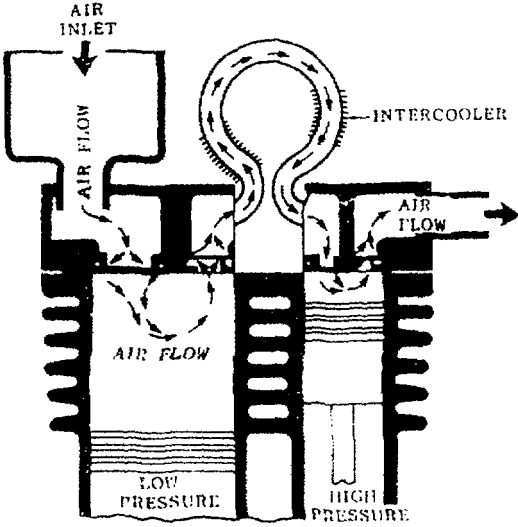

Figure 1-3. Air Compressor, Operation.
- a. *Compressor.* (Refer to figure 1-3).
- (1) Filtered air is drawn into the first stage (low-pressure) cylinders at atmospheric pressure as the pistons move down.
- (2) The air is compressed when the pistons are moved upwards. When the air pressure inside the cylinders reaches a pre-determined value, the valve spring pressure is overcome and the air is forced out the discharge valve to the intercooler.
- (3) As the air flows through the intercooler, much of the heat of compression is dissipated.
- (4) The second stage (high-pressure) is similar to the first stage operation except that the air enters from the intercooler and is recompressed to a higher pressure.
- (5) The air then flows to the air receiver tank.